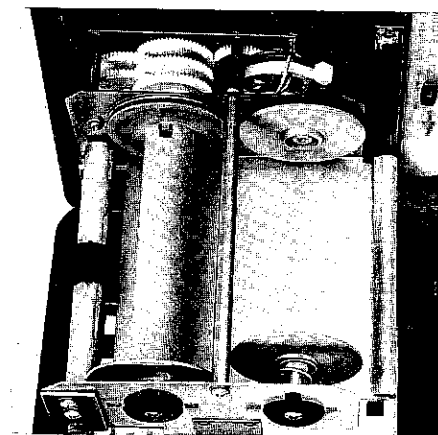

Figure 30
6. Remove the empty supply core from the right side in the same manner. Align the two notches in the core with the tabs on the lower take-up spool. (See Fig. 30) Push the paper retainer knob in and rotate it until it locks into place.